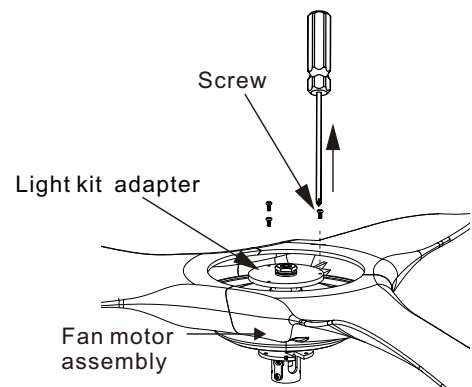

Figure 6
**Step 1.** Remove 3 screws from light kit adapter. ( Do not discard ) (Fig. 6)